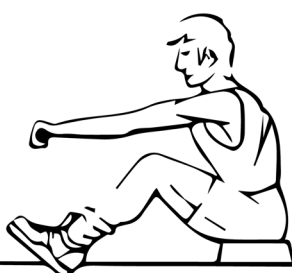

Fig. 2
3. Push yourself backwards, straightening your back and legs at the same time (Fig 2).